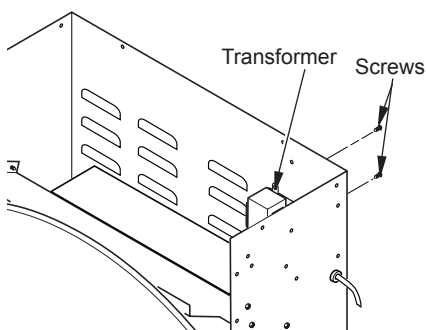

Figure 14 - Removing Transformer
3. Remove screws from outside of firebox surround to remove transformer (see Figure 14).